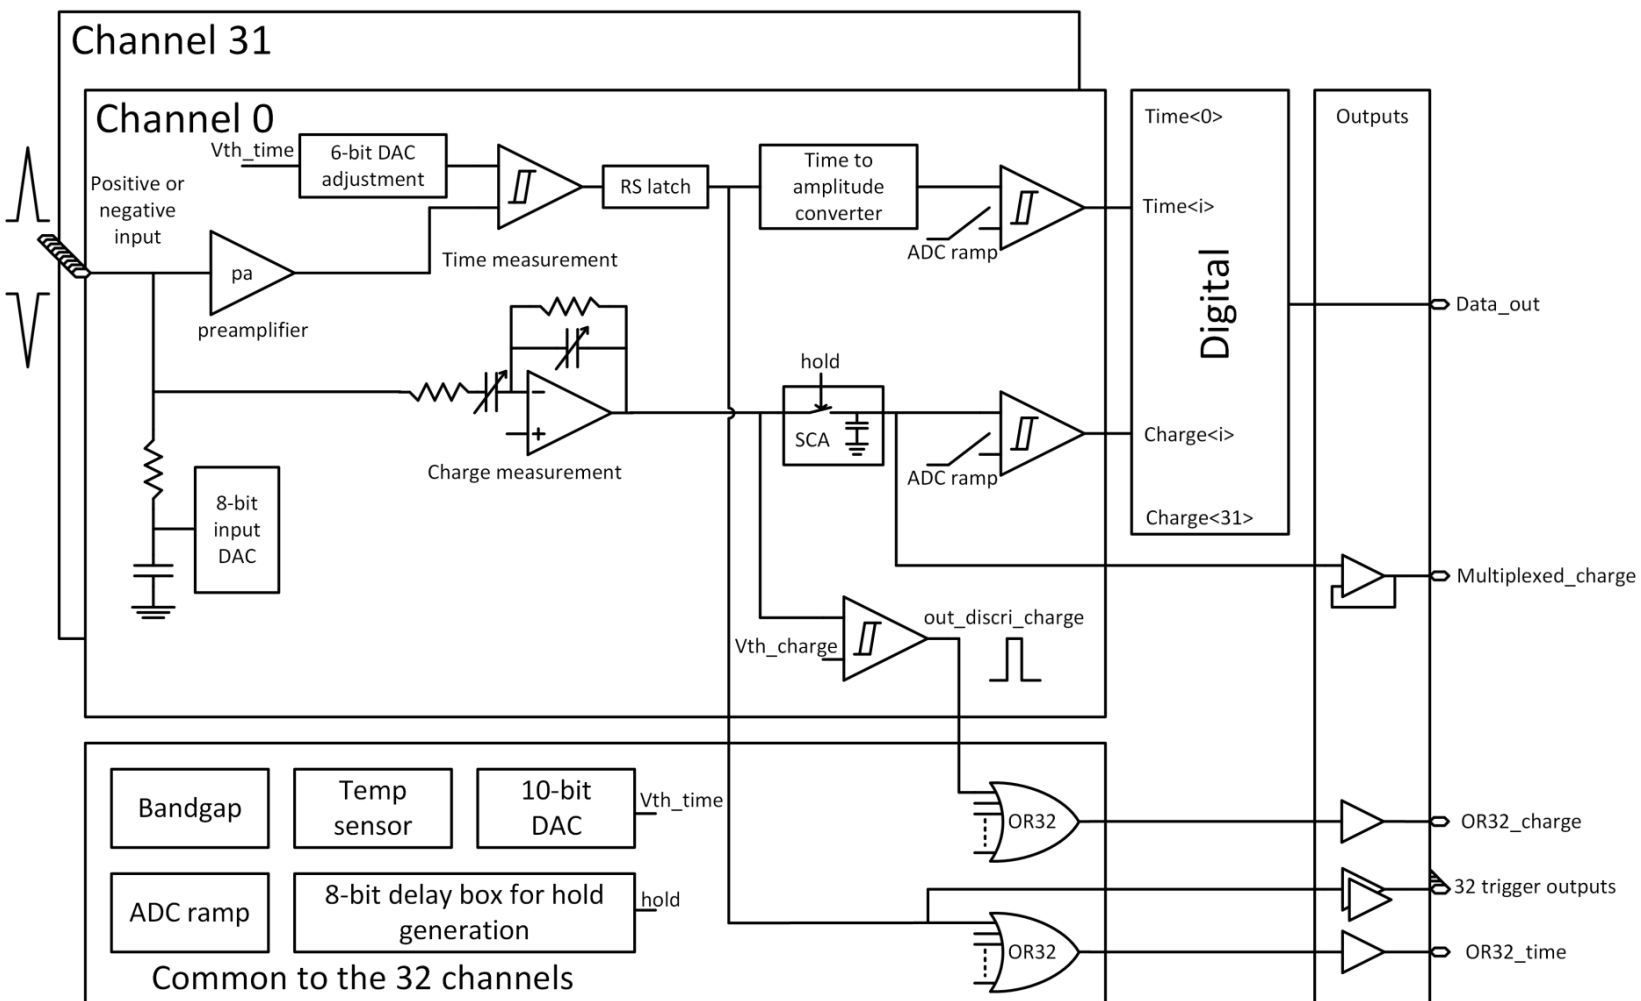

Figure 2 - General ASIC block scheme
A common 10-bit DAC followed by an individual 6-bit DAC ensures the trigger level adjustment from 0.5 to a few tenth of photoelectrons. A bandgap provides a stable reference for the different biasing and reference voltages throughout the ASIC. A temperature sensor allows an analogue measurement of the ASIC temperature that will reflect the temperature of the system because Petiroc 2A is aimed to be located close to the SiPMs. The block diagram of Petiroc 2A is shown in Figure 2.
At the input of the ASIC, an input DAC (Refer to Figure 2 – 8-bit input DAC) is available for each channel. This DAC can be used to trim the high voltage (HV) applied to the SiPM by either increasing (for negative HV) or decreasing (for positive HV) the effective value applied to each detector channel. This feature will allow user to adjust the detector gain non-uniformity especially when using the chip with SiPM array. The input DACs can be controlled through Slow Control registers (refer to Table 4) from Bits #32 to #327. The DAC input is binary-coded decimal on 8 bits and its electrical characteristics are the following:
The pre-amplifier, denoted as "pa" in Figure 2, is a high bandwidth (GBW > 1 GHz) inverting voltage amplifier with a fixed gain of 40 which is suitable for amplifying fast signal such as SiPM outputs. Should user would like to reduce the gain, a quick hot fixes on how it can be done, is listed in Section 10 – item 1. User should take into account the inversion of the output signal and its baseline presence when setting the threshold for Time trigger.